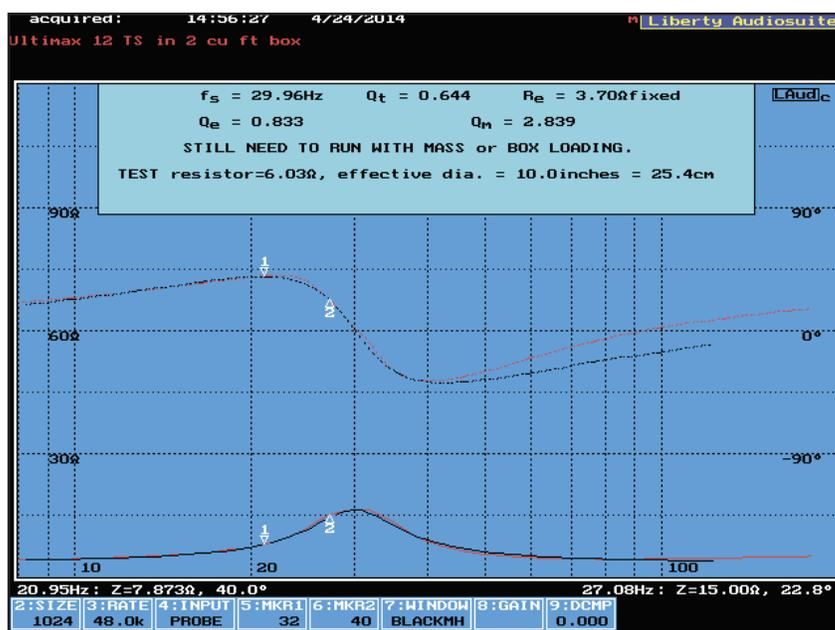

Figure 2: This shows the Dayton Audio Ultimax 12” driver’s Thiele-Small (T-S) parameters.
**Figure 2** shows the basic Thiele-Small (T-S) parameters. The box resonance is a very low 30 Hz and the Q is a very respectable 0.64. There are also no ripples in the impedance curve. This is great performance for a 12" woofer in such a small box.